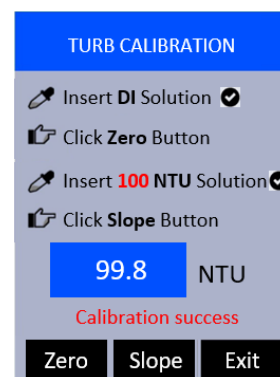

Figure 25.
10. If the slope calibration succeeds, a checkmark (**✓**) and a “**Calibration Success**” message will appear towards the bottom of the display (Figure 25).